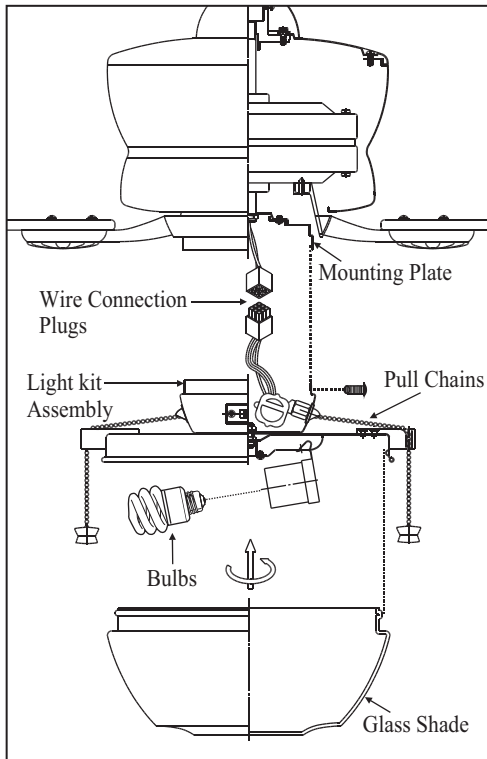

Figure 16
2. Carefully push all wires back into the switch housing, then install the light kit assembly onto the mounting plate with 3 screws provided. Be sure to tighten all screws. (Fig. 16)
4. Raise glass shade up against the light kit and secure it to fan by turning glass clockwise until snug. **DO NOT OVERTIGHTEN.** (Fig. 16)
5. Pass the two pull chains on the light kit through the chain holders located on the light fitter, install the fobs to the pull chains. (Fig. 16)